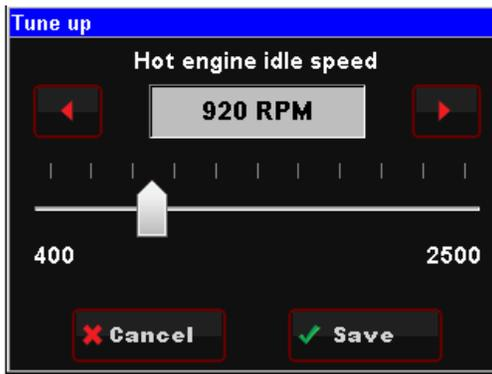

Figure 9 – Slider Bar
**Slider Bar:** Slide the bar left or right with the stylus, or use the right and left arrow keys for fine adjustment (**Figure 9**).